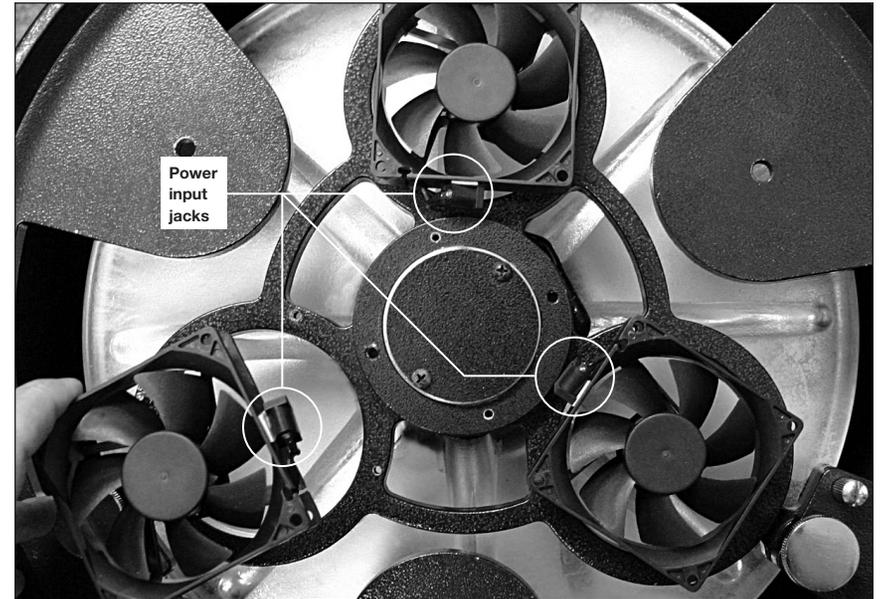

Figure 1. Orient the fans as shown, with fan labels facing down and power input jacks facing the center of the mirror support cell.
1. Place each fan on the rear of the primary mirror support cell and line up the holes in the corners of the fans with the threaded holes in the mirror cell. *Make certain the label on each fan is facing the primary mirror.* Also make sure that the power input jack on each fan is facing the center of the mirror cell (**Figure 1**).